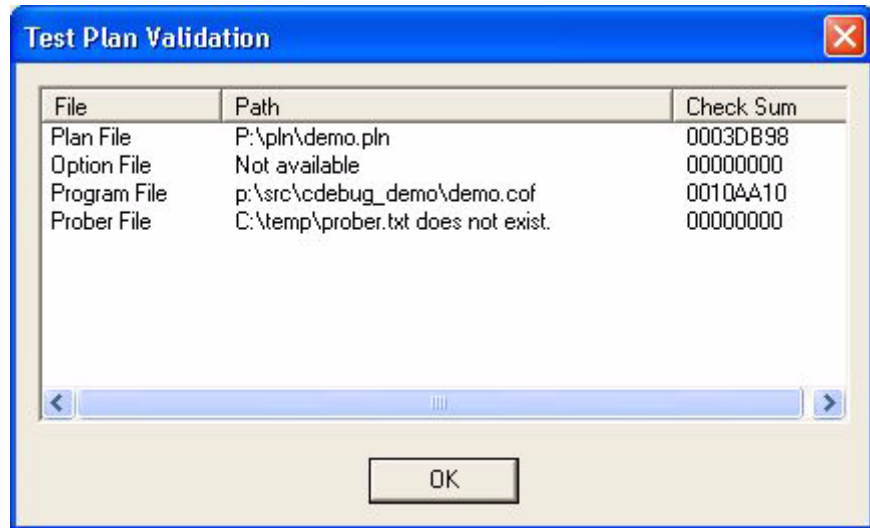

Figure 4-35. Test Plan Validation Dialog Box
- 6 Selecting **OK** in the two Red Hand Alert dialog boxes displays the Test Plan Validation dialog box (Figure 4-35). The `VALIDATE 0x10` plan file test switch controls whether this dialog box displays. It displays the corresponding checksums and adds them to the summary file.